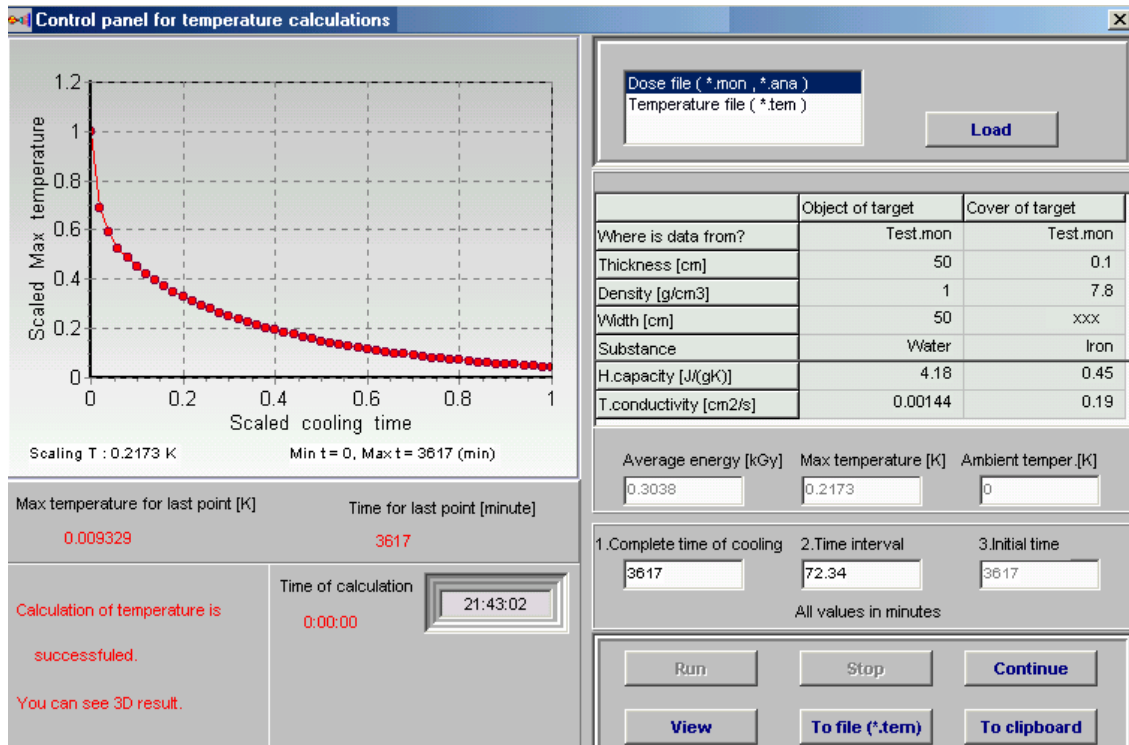

Fig. 24. Control panel for analysis of heating and cooling of an irradiated target. End results.
- When calculation of a temperature has started , the red curve appears upon the plot and **Max Temperature**, **Cooling Time for last calculated point** for the every step. (See Fig. 24).